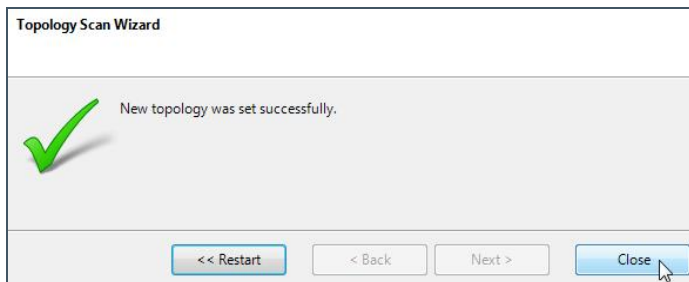

Figure 52: Closing the Topology Scan Wizard
- 4) **Close the Topology Scan Wizard** (see: Figure 52: Closing the Topology Scan Wizard).
9) **Close** the Topology Scan Wizard (see: Figure 52: Closing the Topology Scan Wizard).